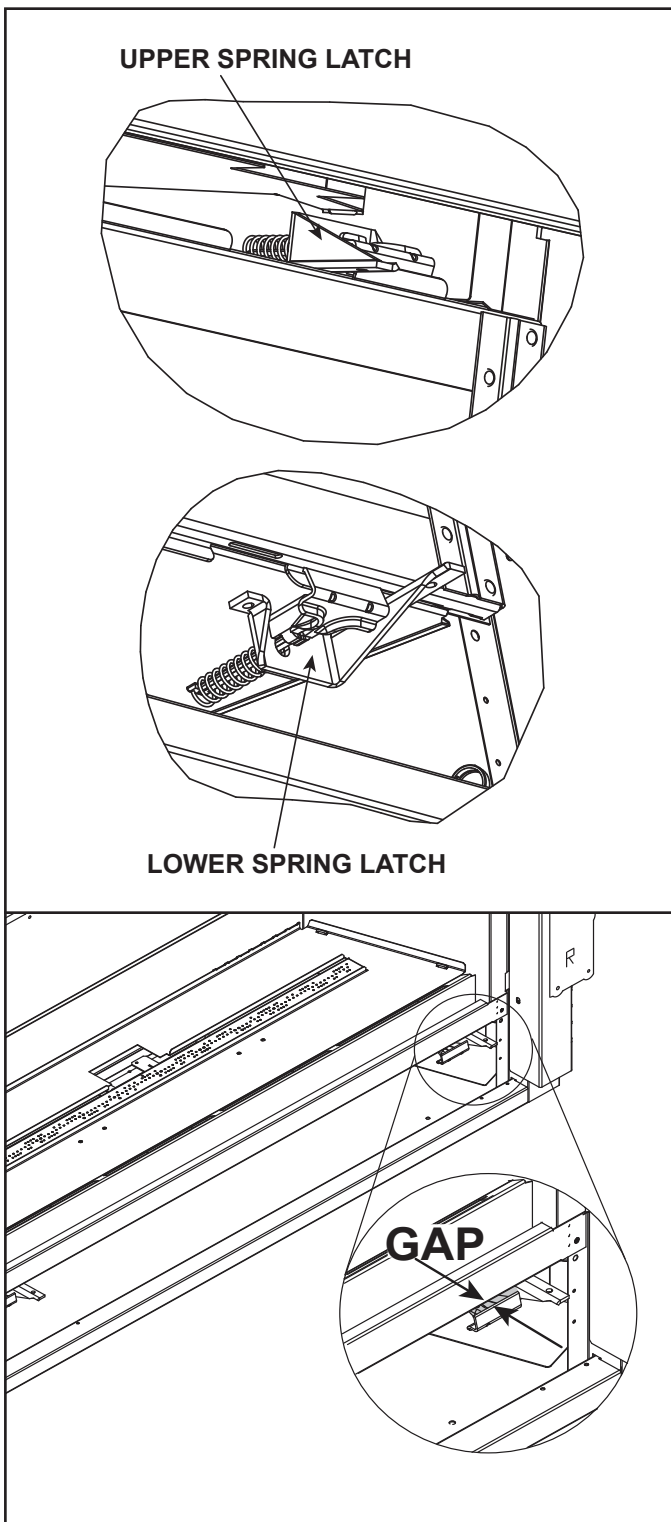

Figure 11.3 Fixed Glass Assembly
2. The glass assembly has two upper spring latches and two lower spring latches. See Figure 11.3. Locate the two spring latches that are on the upper left and right of the fireplace.
Note: Observe the presence of a space or gap between the glass latch and the front of the appliance where the bottom of the glass assembly is positioned. This gap is designed for positive placement when replacing the glass assembly. See Figure 11.3.
The bottom glass latches have been designed to create a small gap between the glass clip and the face of the appliance. See Figure 11.3.